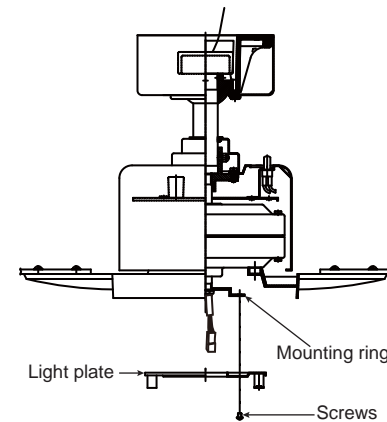

Fig. 17
**Step 1.** Loosen the two screws on the mounting ring attached to the motor shaft and "remove" and save the third screw. (Fig. 17)